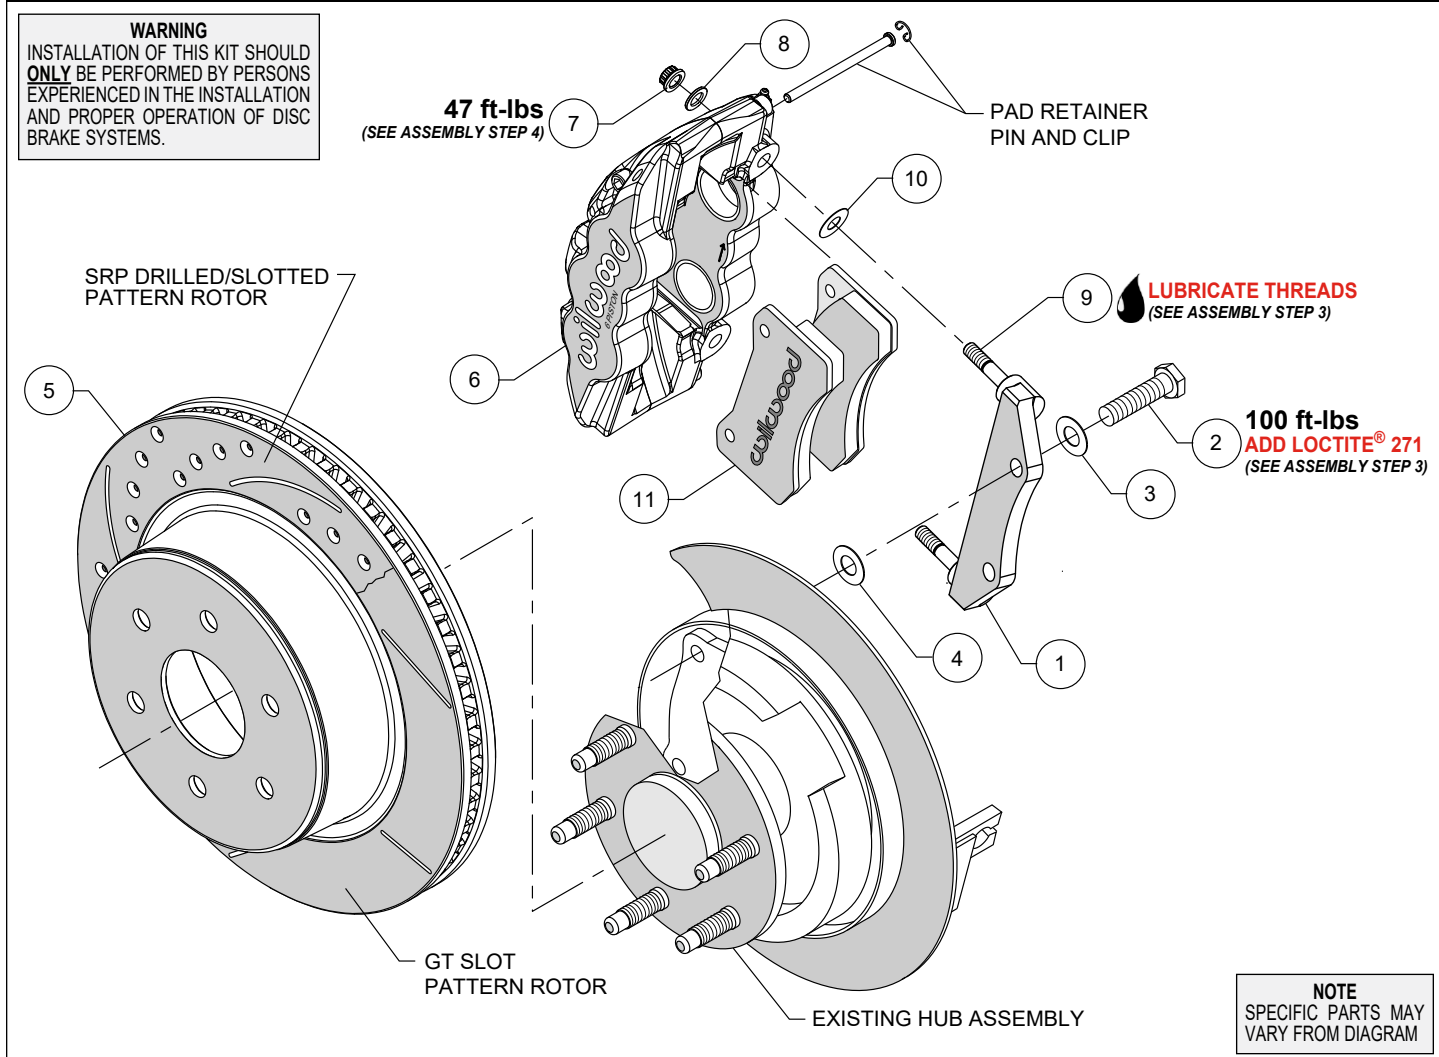

Figure 1. Typical Installation Configuration
NOTE: Numbers in parenthesis refer to the parts list and Figure 1 on the preceding pages.
STEP 1 The caliper mount bracket (1) should initially be installed with clean, dry threads on the mounting bolts. Orient the bracket, as shown in Figure 1 and install using bolts (2) and washers (3). Initially place one .029" thick shim (4) on each bolt between the bracket and factory mounting boss, Figure 1. Temporarily tighten the mounting bolts. **NOTE:** The bracket must fit squarely against the factory mount bosses. Inspect for interference from casting irregularities, machining ridges, burrs, etc. Later, after the caliper alignment has been checked, the mount bolts will be secured using red *Loctite*® 271.
STEP 2 Slide the hat/rotor (5) onto the axle hub, Figure 1. **NOTE:** The hat must fit flush against the axle hub flange or excessive rotor run out may result. Install three lug nuts (finger tight) to keep the hat/rotor (5) in place while continuing with the installation.
STEP 3 **NOTE:** This kit contains distinct right and left hand calipers that must be mounted in a specific direction, as described below. Lubricate the caliper mounting studs (9) with lightweight oil. Initially place one .016" thick shim (10) on each stud between the caliper and the bracket, as shown in Figure 1 and Photo 1. Mount the caliper (6) onto the bracket (1) using lock nuts (7) and washers (8), Figure 1. Temporarily tighten the lock nuts. Ensure that the caliper is mounted so the largest pistons are at the rotor exit end of the caliper, in relation to the forward direction of the rotor. View the rotor through the top opening of the caliper. The rotor should be centered in the caliper, Photo 2. If not, adjust by adding or subtracting shims (4) between the bracket and the factory mounting bosses. Always use the same amount of shims on each of the two mounting bolts (2). Once the caliper alignment is correct, remove the bolts (2) one at a time, apply red *Loctite*® 271 to the threads, and torque to value shown in Figure 1.
STEP 4 Remove the caliper (6), then remove the two pad retaining pins from the caliper by carefully popping out the pin retaining clips and sliding out the pins, Figure 1. Insert the brake pads (11) into the caliper from the bottom, Figure 1 and Photo 3. With the friction material facing the rotor, secure the brake pads in place with the pad retaining pins and clips, Photo 4. Reinstall the caliper onto the caliper mounting bracket and temporarily tighten the lock nuts (7). Check that the top of the brake pad is flush with the outside diameter of the rotor, Photo 5. If not, adjust by adding or subtracting shims (10) between the caliper and the bracket. After the caliper pad height is set, torque the caliper lock nuts (7) to value shown in Figure 1.
STEP 5 Adjust the parking brake shoes outward (using a drum shoe adjustment tool available at your local auto parts store) while spinning the rotor/hat (5) until a slight drag is felt against the hat/drum.